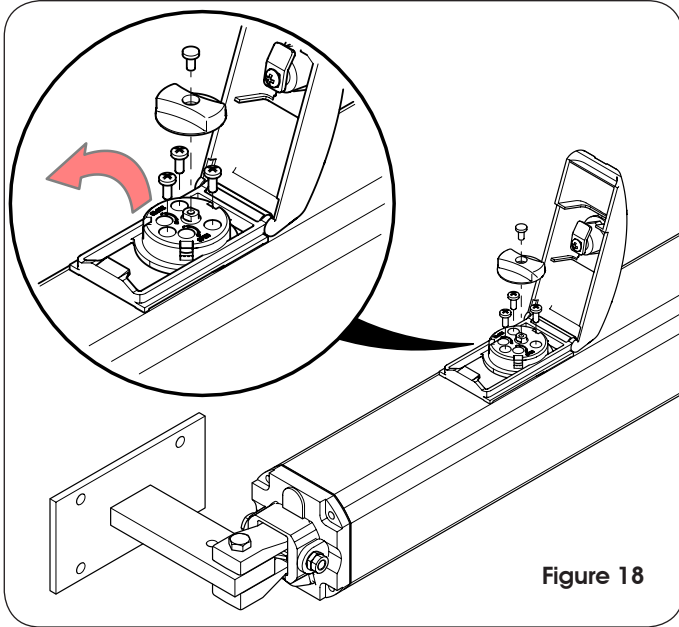

Figure 18
- Remove the red knob after removing the screw (Figure 18)
- Then remove the 3 T20 security screws that are below the red knob (Figure 18)